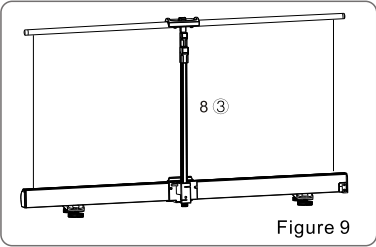

Figure 9
1. Push the uphold locker using one hand simultaneously pull down the uphold bar(8 ①) with another hand . Repeat the same action to low down the uphold bar (8 ②). (Figure 9)